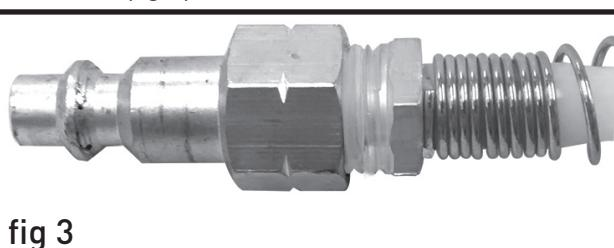
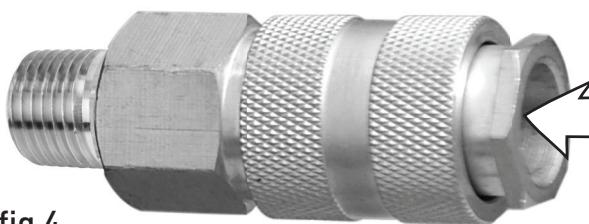

fig 3
fig 4
Your air compressor is supplied with a 1/4" push-connect air coupler (fig 3). With a factory installed air coupler, your compressor is ready to accept air hoses equipped with 1/4" male air connectors (fig 4).
To install an air hose equipped with a 1/4" male connector (fig 3):
1. Simply push the "connector" or "plug" into the fitting (fig 4) and it automatically engages.